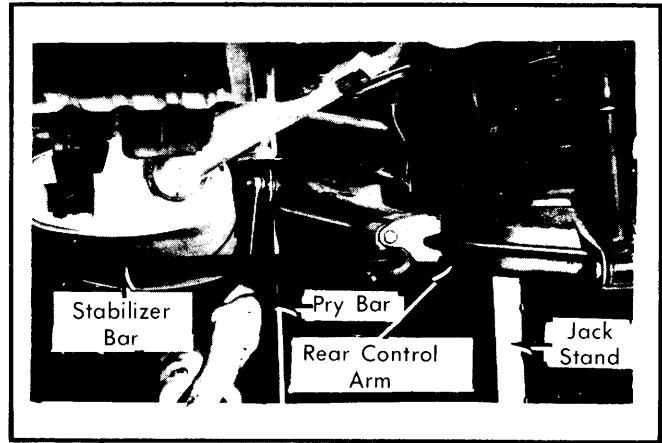

Fig. 17 Adjusting Rear Wheel Alignment (Eldorado)
4) Toe adjustments are made at inner pivot bushings. Loosen nut and bolt at inner bushing. Use pry bar, if necessary. See Fig. 17. Move control arm rearward to increase toe-in and forward to increase toe-out. Tighten bushing nut to 75 ft. lbs. and recheck toe setting.